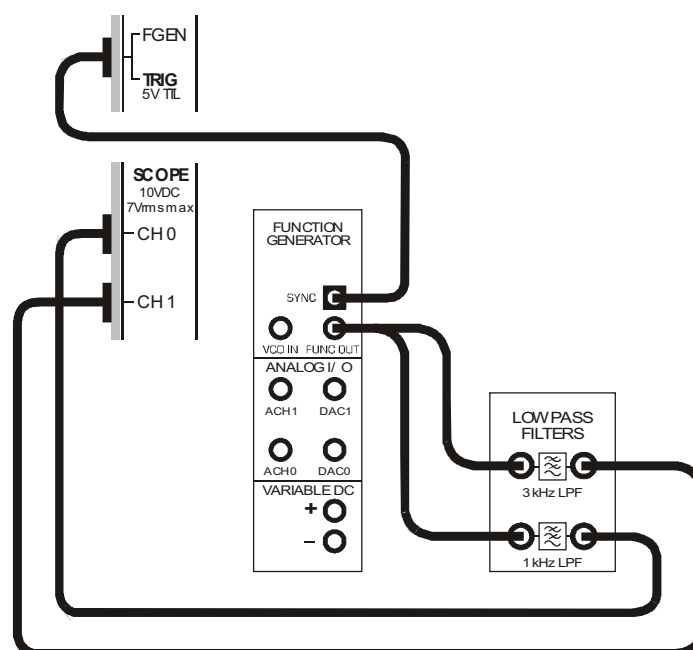

Figure 8
39. Modify the set-up as shown in Figure 8 below.